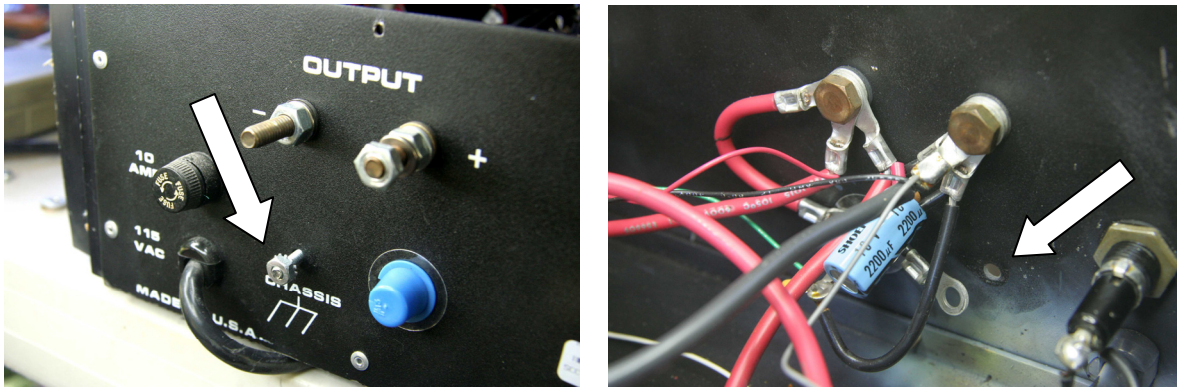

Figure 1a (left) and 1b (right)
**Physical construction** is pretty straightforward – both V+ and V- terminals are floated from the chassis with robust insulators, and no part of the power supply circuitry is referenced or bonded to the chassis. The only connection is a small black wire, I'd guess #16 or #18, between the V- terminal and the chassis bonding screw directly below it. See Fig 1a and 1b above. Mains power enters close by, and is bonded to the mounting lug of a 2-circuit terminal strip which is screwed down to the bottom cover. Inside the box, both bonding points still read open to the chassis.